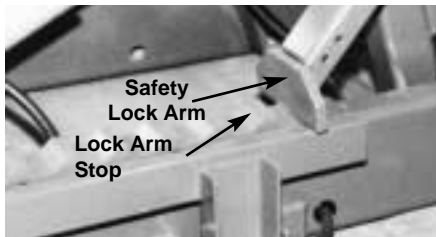

Figure 33
3. Press **'up' button** on remote control switch to release the safety lock arms from the lock arm stops to which they engage. (See Figure 33.)